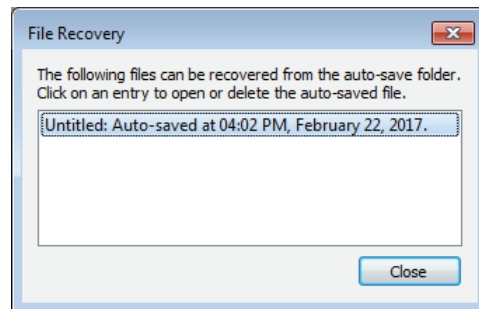

Figure-21. File Recover
- Click on the **Recover Documents** tool from the **File** menu. The **File Recovery** dialog box will be displayed where you need to select your unsaved file; refer to Figure-21.